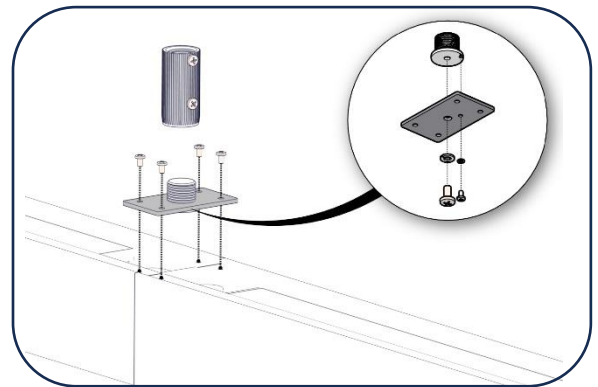

Figure 6
20. Assemble a **Stem Adaptor** and **Small Joiner Bracket** (or **Large Joiner Bracket** for **Control Boxes** installed in the middle of the run) and secure to the joining fixtures. Thread an **Adjustable Stem Adaptor** onto the Stem Adaptor. [Figure 6]